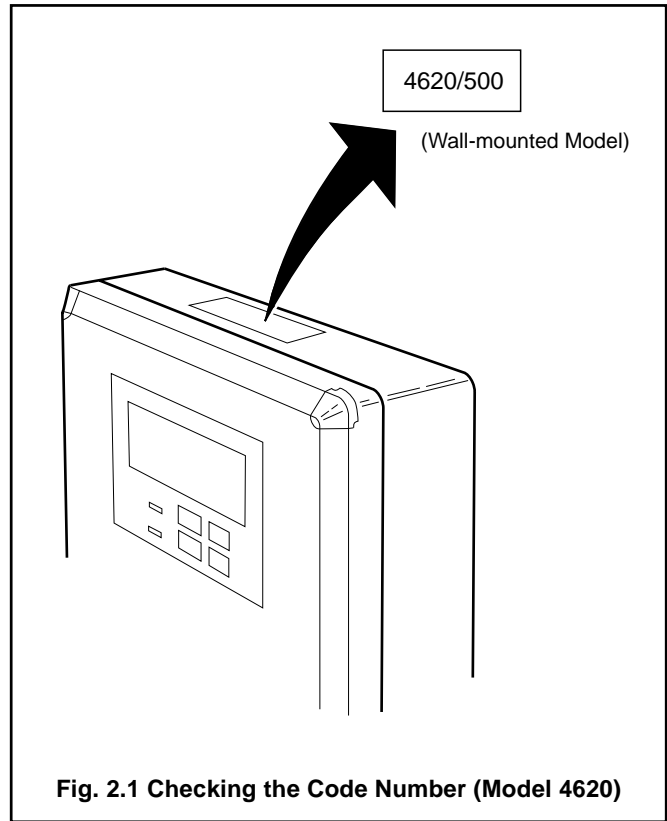

Fig. 2.1 Checking the Code Number (Model 4620)
2.1.1 Wall-/Pipe-mounted Instruments – Fig. 2.1